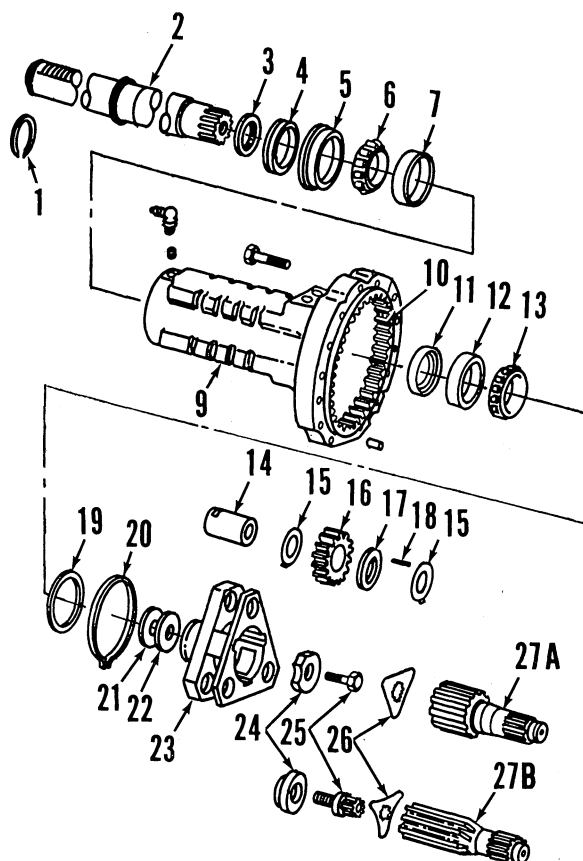

Fig. 190—Exploded view of final drive used on Model 4650. Final drive used on Models 4450 and 4850 is similar. Refer to Fig. 190A for Models 4050 and 4250.
173. PLANETARY. To remove planet pinion carrier, slightly loosen or tighten carrier retaining cap screw (25—Fig. 190 or 190A) so lockplate (26) can be removed from head of screw.
174. AXLE HOUSING AND SHAFT. The axle shaft (2—Fig. 190 or 190A) can be removed from inner bearing and housing by pressing on inner end of axle shaft. Use a suitable puller to remove inner bearing cup (12) if necessary. Pry inner oil seal (11) from housing. Inspect oil seal retainer (5) and pry from housing if necessary. Use a suitable puller to remove outer bearing cup (7) from housing. Use a puller to pull outer bearing cone (6), oil seal (4) and spacer (3) from axle shaft.
Install a new inner oil seal (11—Fig. 190 or 190A) using suitable driver disc. Seal should be installed
When assembling axle shaft, heat spacer (3—Fig. 190 or 190A) to 465° F (240° C) maximum before installing onto shaft. Install heated spacer onto shaft with larger OD toward wheel end of shaft. Drive spacer against shaft shoulder, then allow to cool before installing oil seal. Fill seal lip of outer seal (4) with grease, then install over the spacer with metal side toward wheel end of shaft. Heat bearing cone to 300° F (150° C) maximum, then install onto shaft tight against spacer. Allow bearing to cool, then reseal bearing and spacer assembly against shaft shoulder using a brass drift and heavy hammer.
176. AXLE BEARING END PLAY ADJUSTMENT. The axle bearings must be adjusted to provide zero end play by means of shims (21—Fig. 190 or 190A). Make certain there is a measurable amount of shaft end play before proceeding with adjustment procedure. If necessary, press axle shaft out of inner bearing slightly to provide end play.
Position two soft lead balls, which are 0.3-0.4 inch (8-10 mm) in diameter, on inner end of axle shaft. Use heavy grease to hold balls in place. Install a bronze thrust washer (19) against the inner bearing. Do not install shims (21—Fig. 190 or 190A) or washer (22) at this time. Install carrier assembly into housing and tighten retaining screw to 200 ft.-lbs. (270 N·m). Rotate axle housing a minimum of 12 revolutions in both directions to ensure bearings are properly seated, then retorque retaining screw to 200 ft.-lbs. (270 N·m).
177. ROLLING DRAG TORQUE CHECK. After proper axle bearing shim pack is determined, install planetary carrier and check rolling drag torque as follows: Be sure bronze thrust washer (19—Fig. 190 or 190A) is in place against inner bearing. Install carrier with previously determined shim pack (21) and washer (22). Make certain carrier retainer (24) is correctly positioned, then tighten retaining cap screw (25) to 580 ft.-lbs. (786 N·m). Rotate the axle housing a minimum of six turns in both directions to ensure bearings are properly seated, then retorque retaining screw to 580 ft.-lbs. (786 N·m). Usual procedure for applying this much torque is with a torque multiplying wrench such as JDST-38 or equivalent.
Install lockplate (26—Fig. 190 or 190A) so ears are between lock lugs on carrier. With lockplate installed, tighten retaining screw slightly to wedge plate against carrier lock lugs. Fill axle outer bearing compartment with TY6341 grease or equivalent high temperature-extreme pressure grease. Reinstall final drive assembly.